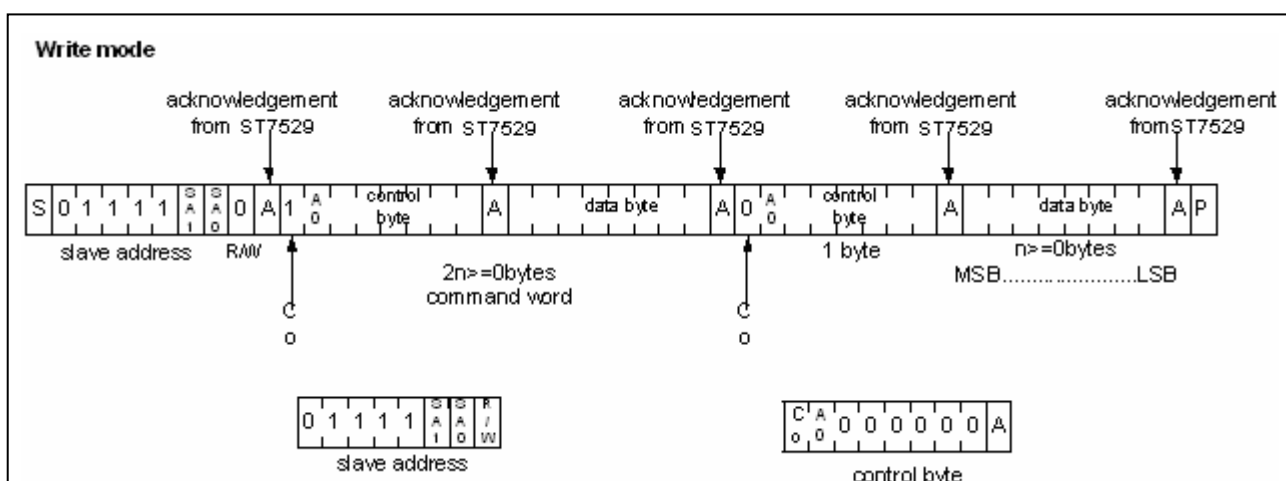

Fig .7.1.4.5 2-line Interface protocol
One data bit is transferred during each clock pulse. The data on the SDA line must remain stable during the HIGH period of the clock pulse because changes in the data line at this time will be regarded as a control signal. Bit transfer is illustrated in Fig.7.1.4.1.
Both data and clock lines remain HIGH when the bus is not busy. A HIGH-to-LOW transition of the data line, while the clock is HIGH is defined as the START condition (S). A LOW-to-HIGH transition of the data line while the clock is HIGH is defined as the STOP condition (P). The START and STOP conditions are illustrated in Fig.7.1.4.2.
The system configuration is illustrated in Fig.7.1.4.3.
has been clocked out of the slave. In this case, the transmitter must leave the data line HIGH to enable the master to generate a STOP condition. Acknowledgement on the IIC Interface is illustrated in Fig.7.1.4.4.
The IIC Interface protocol is illustrated in Fig.7.1.4.5.